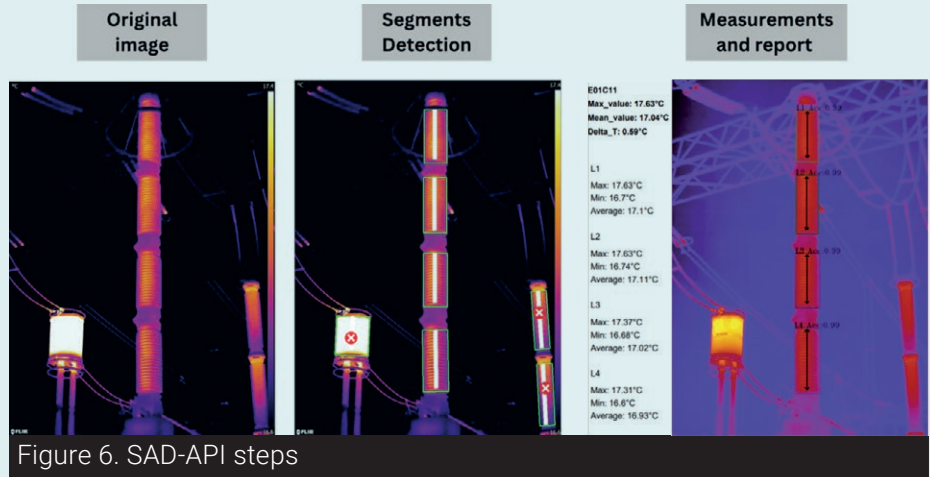

Figure 6. SAD-API steps
was developed. This innovative component of the SDPR utilizes Artificial Intelligence (AI) to enhance efficiency and accuracy. Operating as a robust REST API, the SAD accepts thermal images, employs a trained AI model to identify surge arrester segments, extracts measurements, and then provides temperature data to the user. Figure 6 illustrates this process.